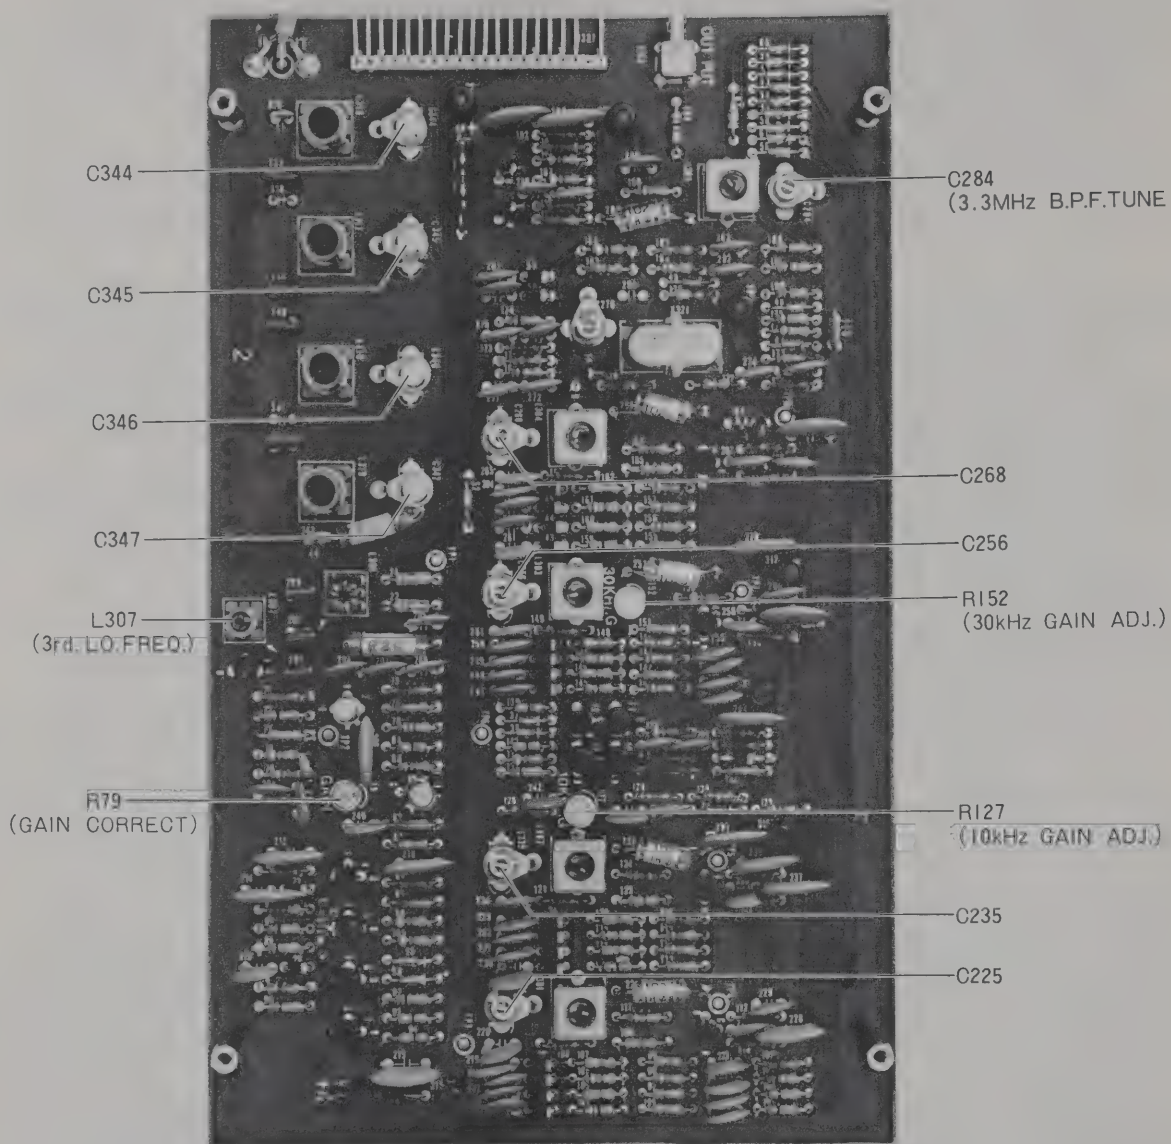
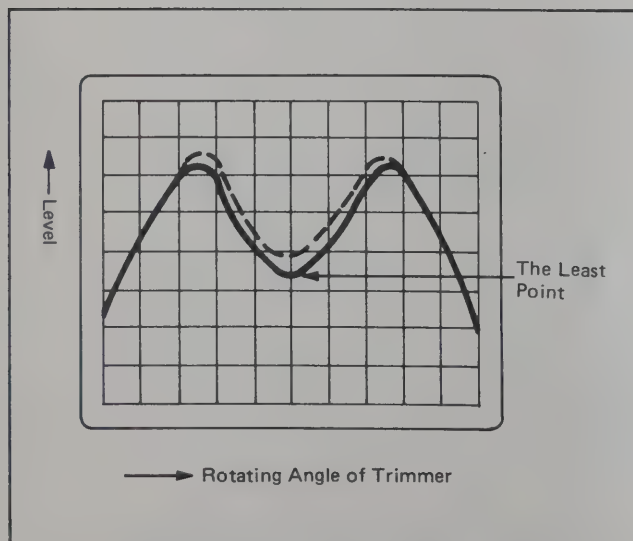

Figure 5.15 IF FILTER BD. (SK030) Adjustments
Figure 5.16 B.P.F. Adjustment Display
- Adjust C284 of the IF Filter board (see Figure 5.15) to null the signal to its lowest point (Figure 5.16).